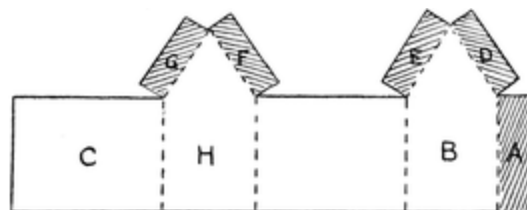
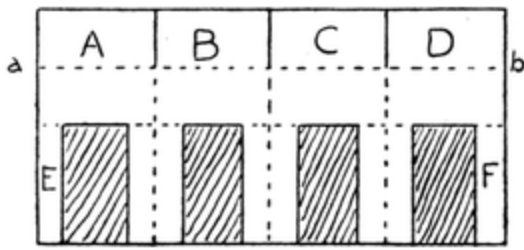
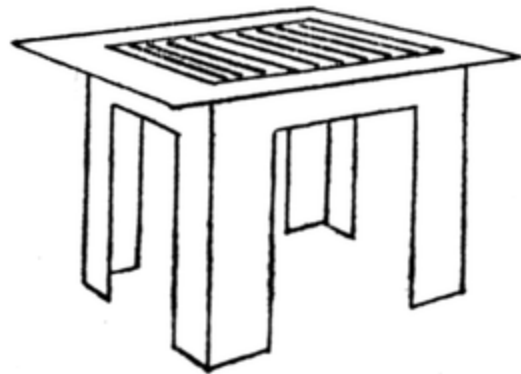

FIG. 1
FIG. 21
FIG. 22
Methods of joining Cardboard and Paper Edges. (1) Leaving a flange. In Fig. 1 the shaded portions represent flanges—flange A is for joining side of house B to C, flanges D, E, F, G are for holding the roof; they must, of course, be bent at right angles to the sides B and H. (Note flange in socket of candlestick, Fig. 49, Chapter IV, and in pigeon-house, Chapter X.)
If Fig. 1 is made of cardboard, flange A must have the surface of the cardboard pared away, otherwise the joining will be clumsy. The dotted lines represent bends only in the case of paper, but half cuts in the case of cardboard.
square, each square the same size as top of table. Fold and cut the double square as in Fig. 21. Bend flaps A B C D carefully along *a b*. Gum A to B, C to B, D to A to form legs. Gum square top on to A B C D. A square of coloured paper can be gummed on to top of table as in drawing (Fig. 22). Leg E can be gummed to F by means of a paper hinge, or a flange may be provided, as in Fig. 1.